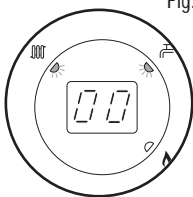

Fig. 105
6. The display will show '00', indicating maximum rate, then revert to 'P' alternating with the current boiler temperature (Figs. 105, 106 & 107).